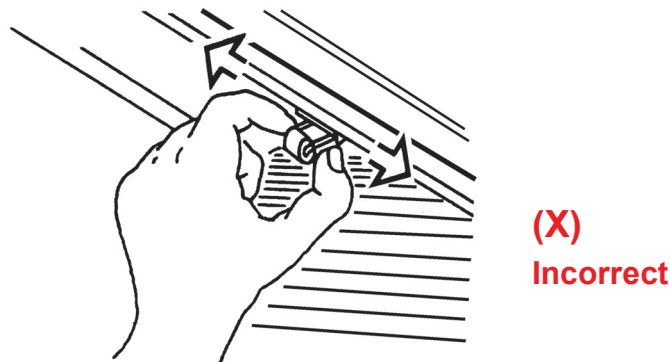

Figure 4-4
3. Do not move it by holding its front rubber roller (Figure 4-4).